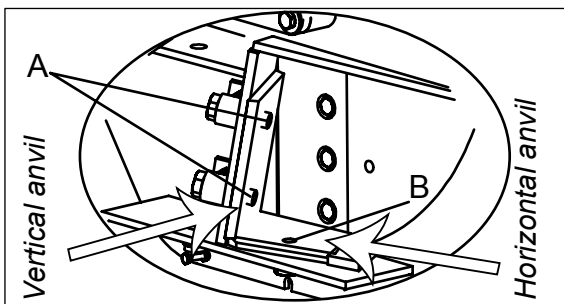

Fig. 16. Anvil fastening bolts
The chipper features both a vertical and horizontal anvil. To remove the anvils, open the fastening bolts (A) and (B) (M16). The horizontal anvil fastening bolt (B) is located below the feed opening. Fig. 16.
1. Loosen the anvil fastening bolts (A) and (B) (M16). Fig. 16.